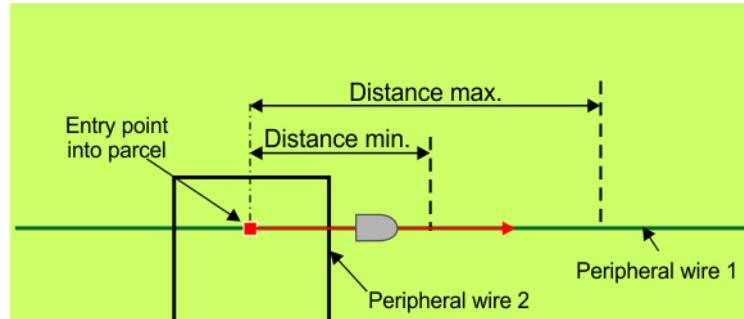

Figure 80: Minimum and Maximum Start zone distances from entry into parcel
- The point where the robot enters the parcel, if this differs from the one in which the station is located. See Figure 80: Minimum and Maximum Start zone distances from entry into parcel (page 82).